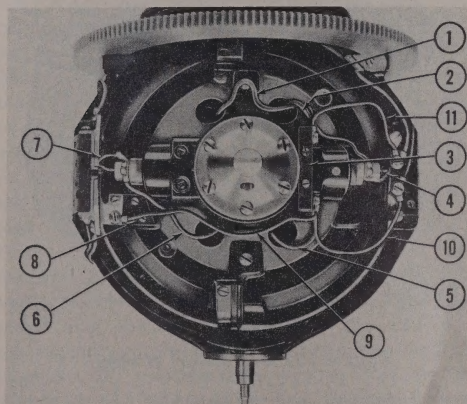

Figure 270 — Rotor Case Wiring
(e) **INSTALL BRUSHES AND CONNECT LEAD WIRES.** (See figure 270.)—Fit brushes, as outlined in this section, paragraph 2, d, (15). Test the brush tension with a spring scale. This tension, at the point when contact is broken, must be adjusted from 3½ to 4 ounces. Twist the two longer field coil leads (1 and 2) together; install the one (1) farthest from the terminal block (3) to the terminal on that end of the block with a 3-48x3/16-inch binding-head screw and flat washer. Connect the other lead (2) and the
(c) INSTALL TORQUE MOTOR ACTUATING WIPER AND FLEX LEADS. (See figure 270.)—Install torque motor actuating contact wiper block (8) on the rotor case, using two 2-56x3/16-inch fillister-head screws with flat washers. Then, install the contact wiper on the contact wiper block, using one 2-56x3/16-inch fillister-head screw and also a 2-56x3/16-inch binding-head screw, with a flat washer